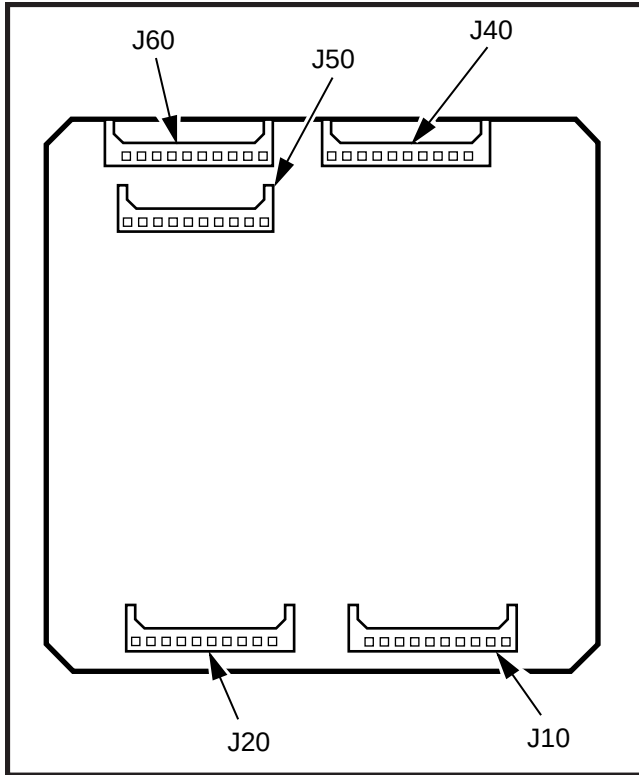

FIGURE 6-6
- 2) Mate EOCU connectors **J10**, **J20**, **J40**, **J50**, and **J60** (Figure 6-6) with PEKU connectors